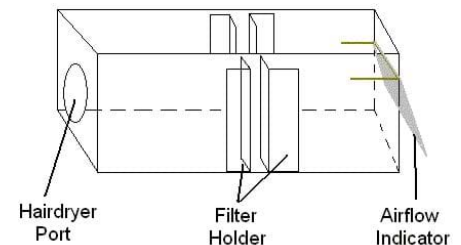

Figure 1. The filter testing apparatus.
5. Fold four index cards into an "l" (L) shape. Tape these halfway down the length of the shoebox on the inside to hold the students' filters (see Figure 1).